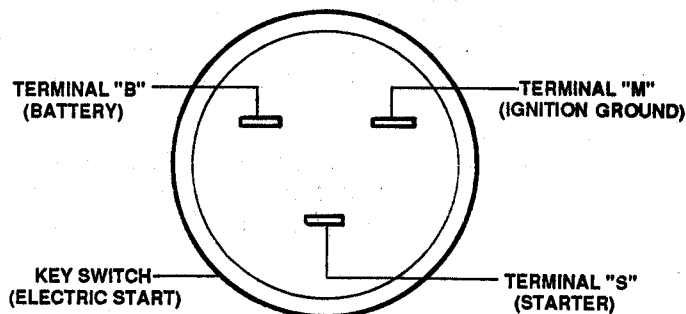

FIGURE 6.9
1. Before testing, be certain of the function of each terminal. See Figure 6.9.